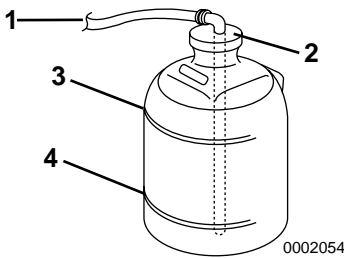

Figure 8
5. Remove the coolant recovery tank cap (**Figure 8, (2)**) and fill with coolant mix to the lower limit (**Figure 8, (4)**). Replace cap. Never fill to the upper limit (**Figure 8, (3)**).
6. Check the rubber hose (**Figure 8, (1)**) connecting the coolant recovery tank to the heat exchanger. Be sure the hose is securely connected and there is no looseness or damage.